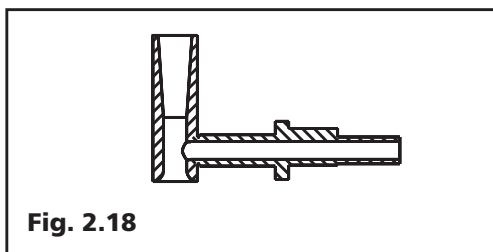

Fig. 2.18
2.13 Venturi (versioni C.S.I./R.S.I.) (Fig. 2.18)